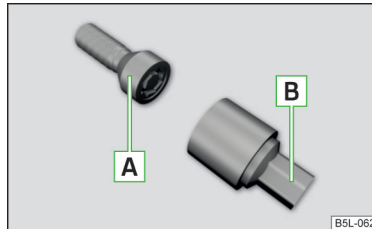

Fig. 182
The anti-theft wheel bolts protect the wheels from theft. These can only be loosened or tightened with the use of adapter [B] » Fig. 182.
- Insert adapter [B] » Fig. 182 with the toothed side all the way into the inner teeth in the head of the anti-theft wheel bolts [A].